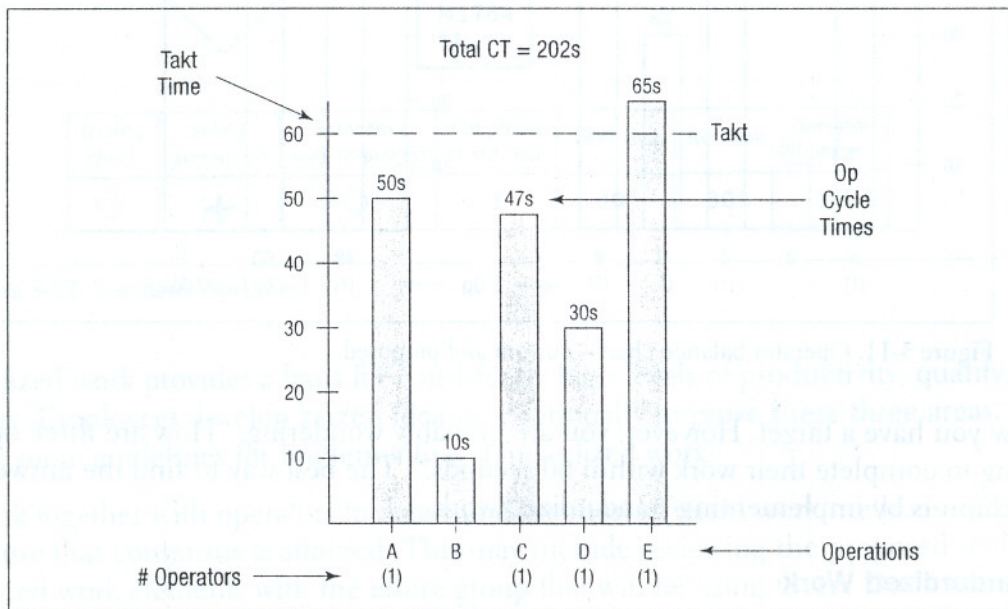

Figure 3-10. Operator balance chart—current state
2. Create a bar chart that gives a better visual representation of the condition (see Figure 3-10). This current-state bar chart clearly shows a line that is out of balance, and where the imbalance exists.